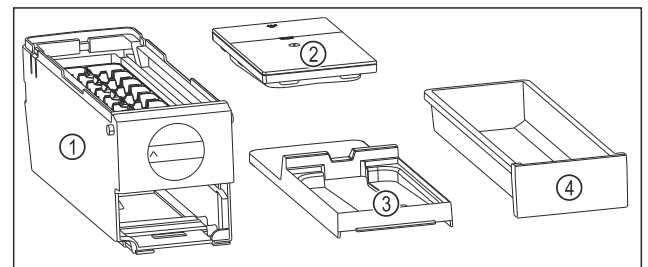

Fig. 81 Components of the EasyTwist-Ice
- ▷ EasyTwist-Ice is dismantled into four parts. (see Fig. 81)
- ▶ Only dismantle the EasyTwist-Ice into the components shown. (see Fig. 81)
- ▶ Clean the EasyTwist-Ice body Fig. 81 (1) as a whole.